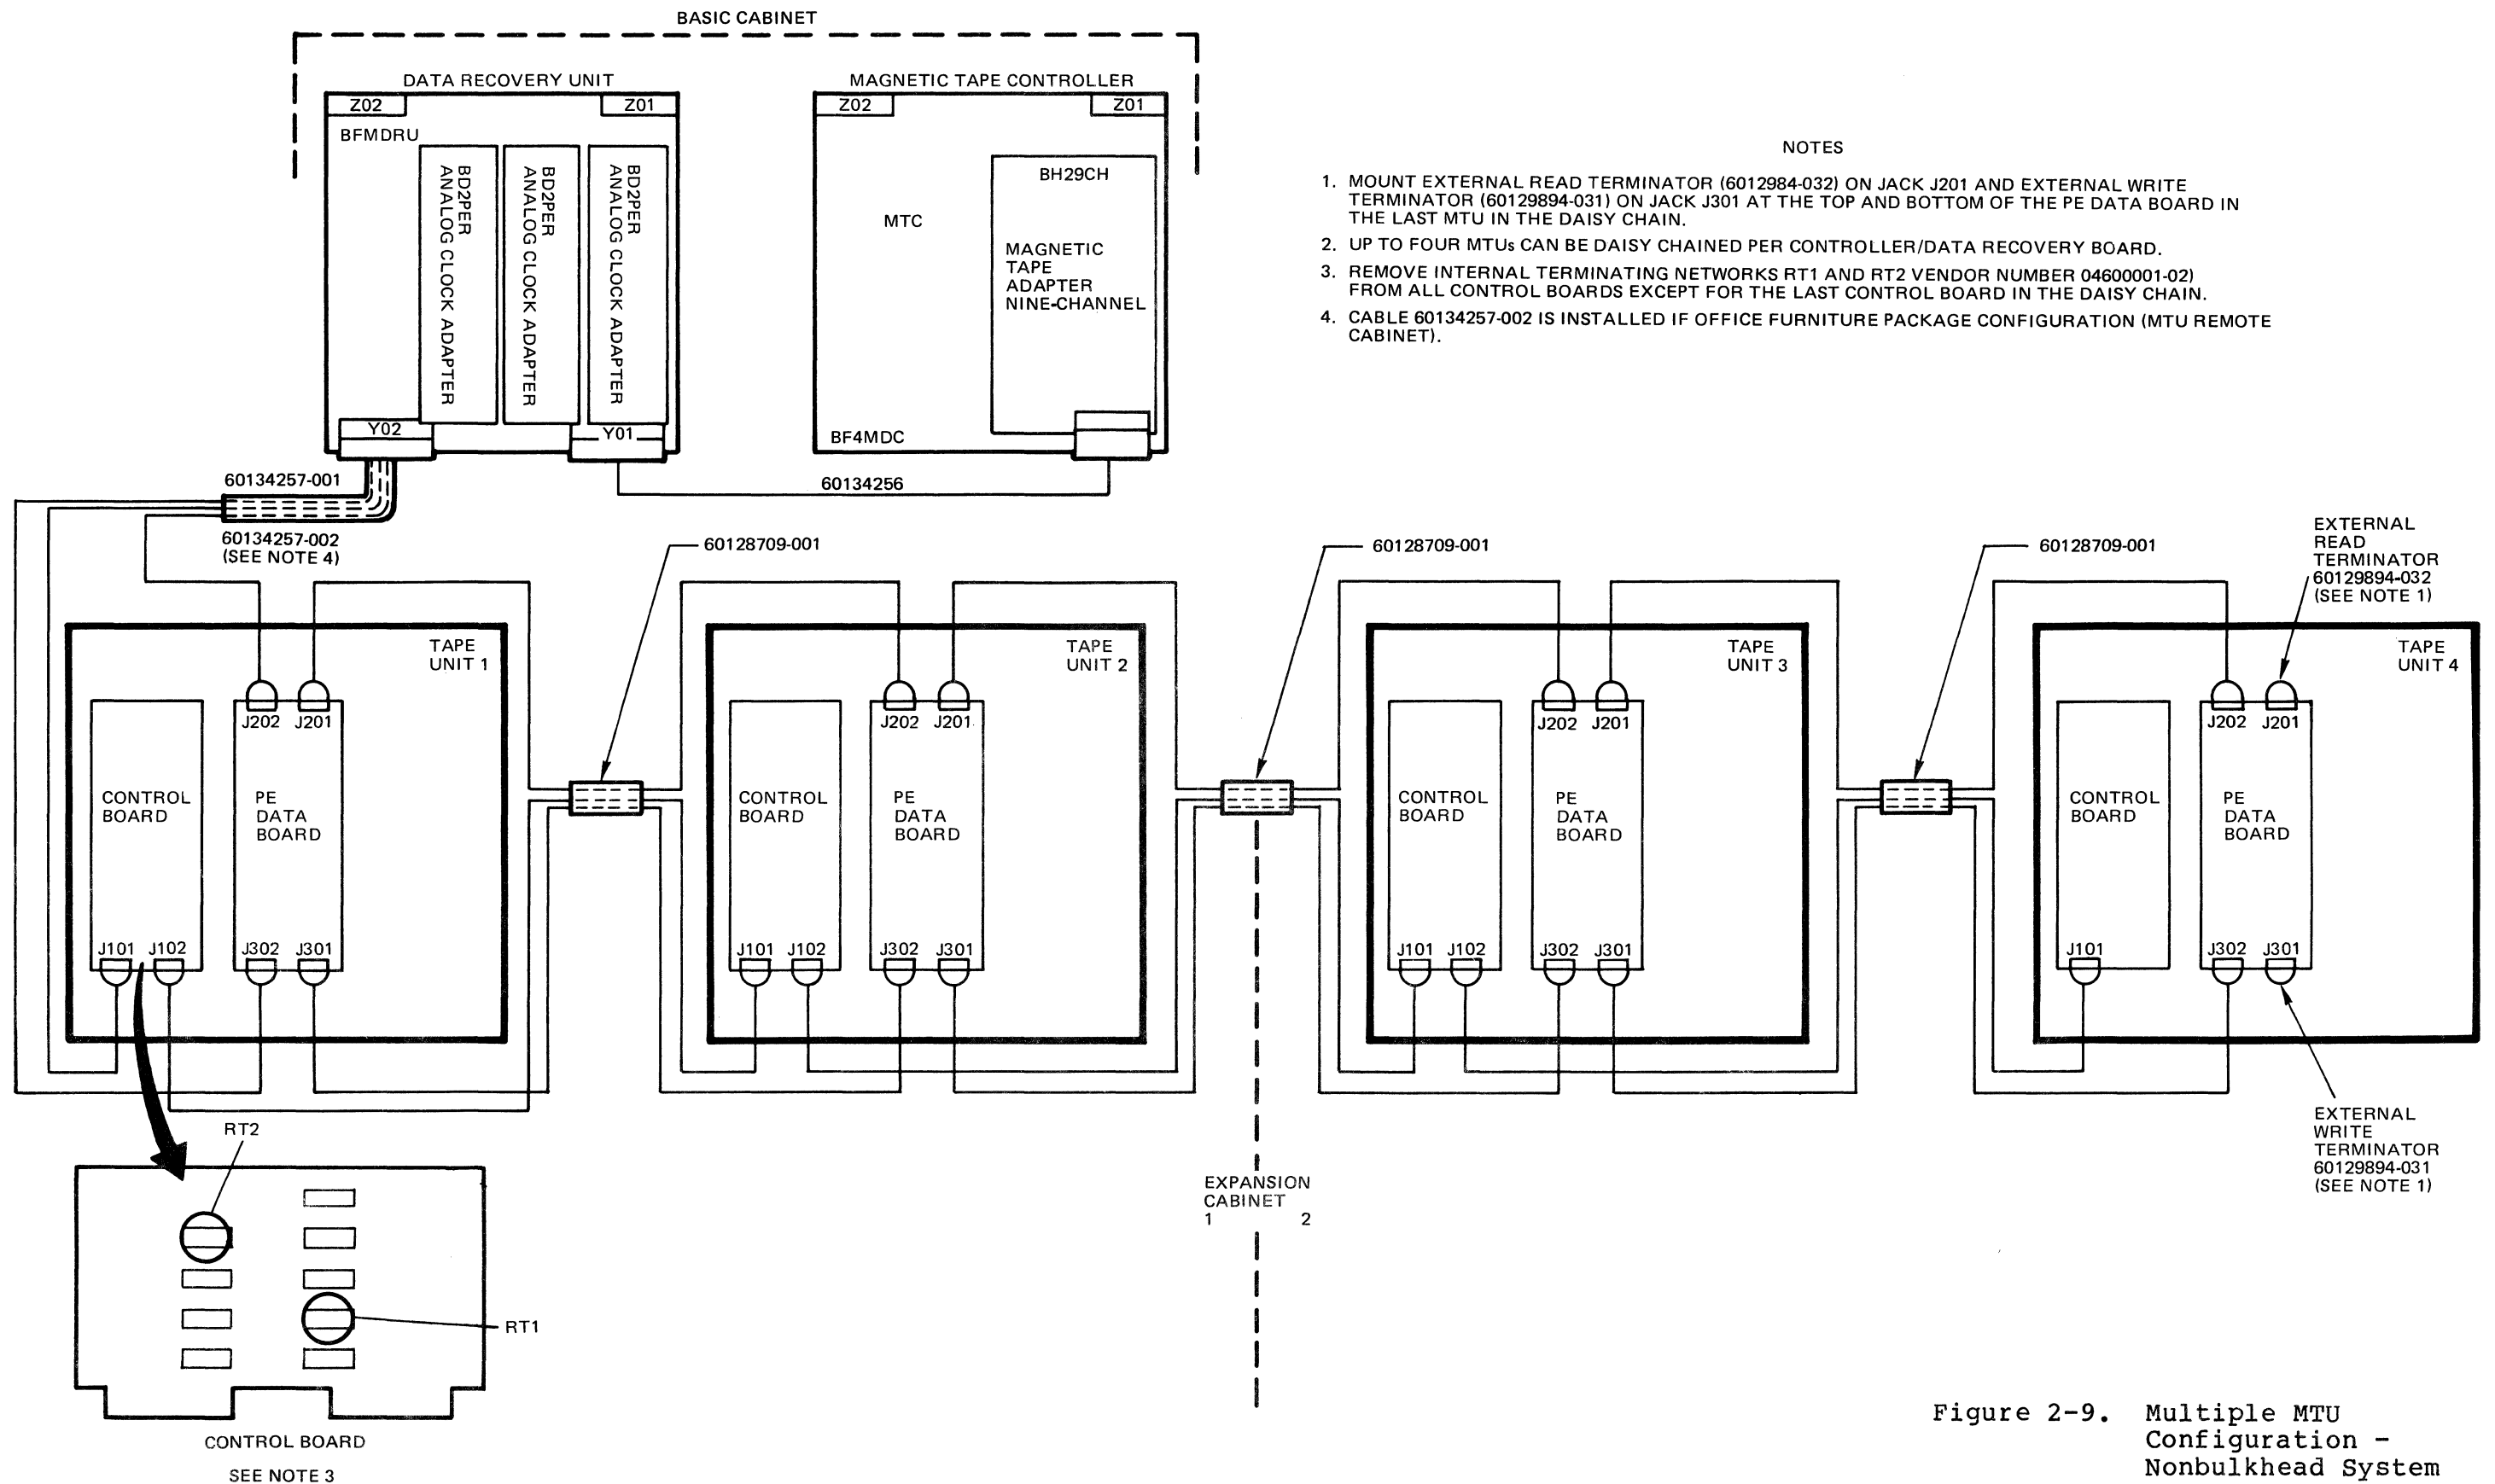

Figure 2-9. Multiple MTU Configuration - Nonbulkhead System
To cable the first MTU from the MTC/Data Recovery Unit in the basic cabinet (see Figure 2-9), perform the following procedures.
Ensure that the first MTU cabling procedures are performed in the configuration (see Figure 2-9). Then, from the first MTU, verify or connect the connector plugs as follows:
2. At the second MTU (see Figure 2-9), verify or connect the connector plugs as follows:
4. Ensure that the last MTU in the daisy chain has the following external terminators (see Figure 2-9) installed and connected as follows:
5. Ensure that internal terminating networks RT1 and RT2 (see Figure 2-9) are removed from the MTU control board in all MTUs except the last MTU in the daisy chain (terminating network part no. 60129894-036).